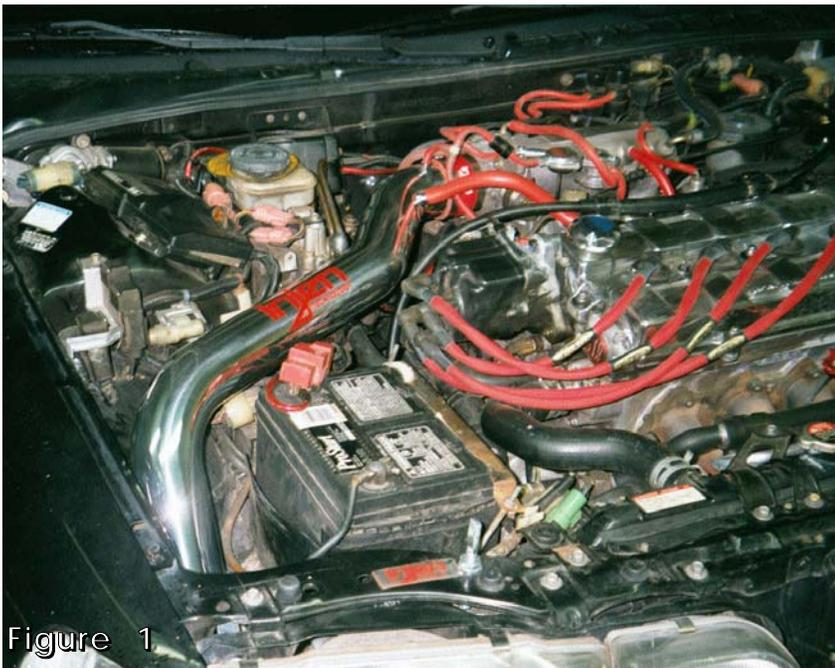

Figure 1
- 9- Align the entire cold air intake in place so that there is plenty of clearance through out the length of the intake then continue to fasten all nuts, bolts and clamps tight. See fig. 1